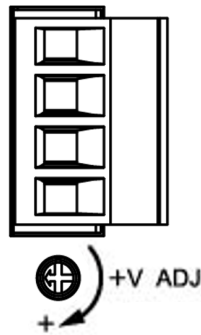

Figure 2.8 - Adjustable Knob for Power Output Voltage
3. Rotate the knob to adjust power output voltage from 48~55VDC, as shown in *Figure 2.8*.